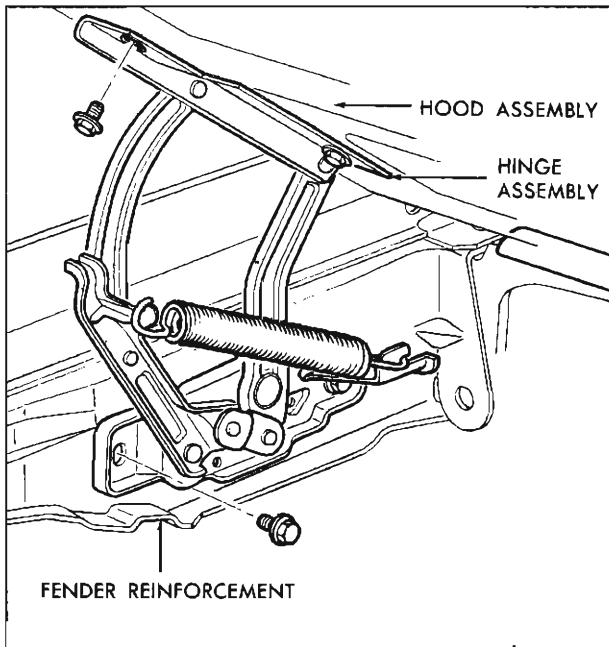

Fig. 12—Hood Hinge
The hood hinge, bumpers and catch, hood and protective inner fender skirts are detailed by Figures 12, 13 and 19. The "double" fender protects the outer fender
### HOOD HINGE (FIG. 12)
3. Remove hood hinge assembly (See Figure 12).